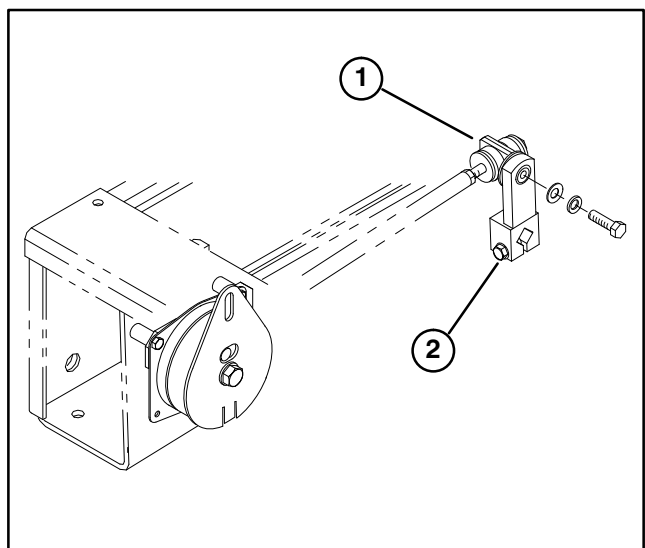

Figure 7
18. Remove capscrew, lockwasher and flatwasher securing traction rod pivot post to traction lever (Fig. 7).